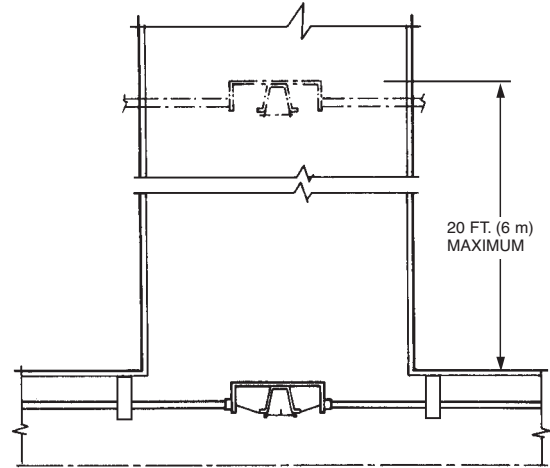

FIGURE 118
- ▶ Each exhaust duct must have at least one detector installed in the duct entrance, located in the airstream of the cooking vapors, or at a maximum of 20 ft (6.1 m) into the duct opening. See Figure 118.